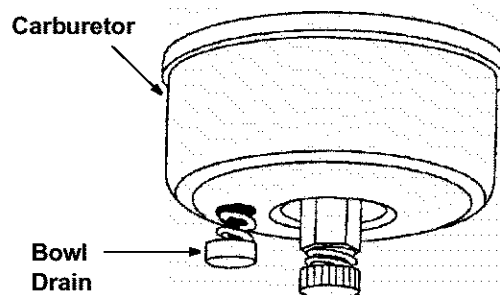

Figure 16
3. Drain carburetor by pressing upward on bowl drain, located below the carburetor cover. See Figure 16.